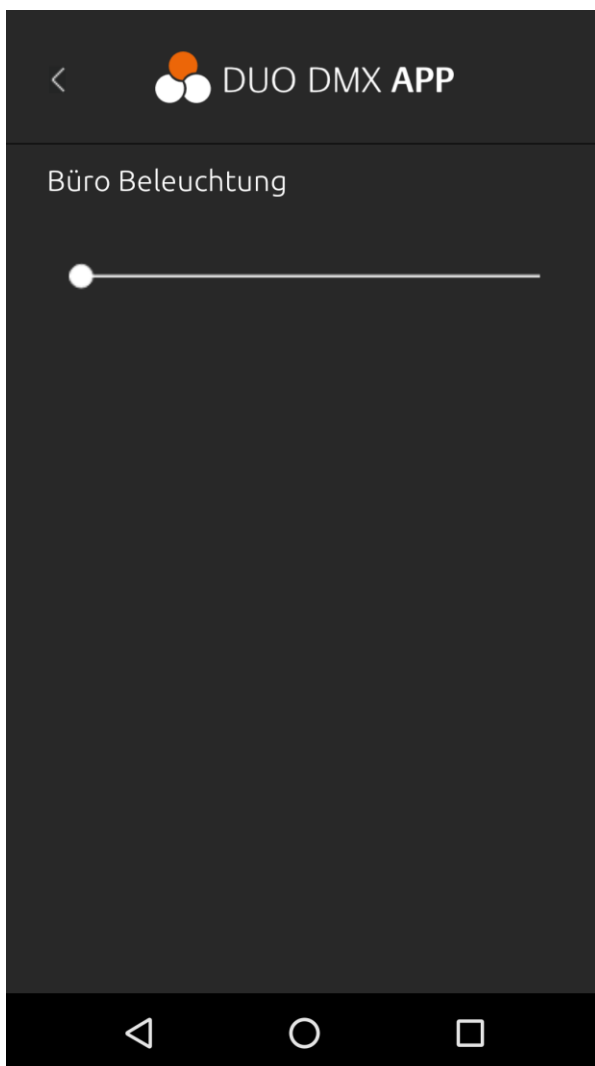

Figure 64 Lamp 1 channel (only dimming)
- 2. Screen for the control of an individual channel (dimming with a slider; Figure 64 Lamp 1 channel)